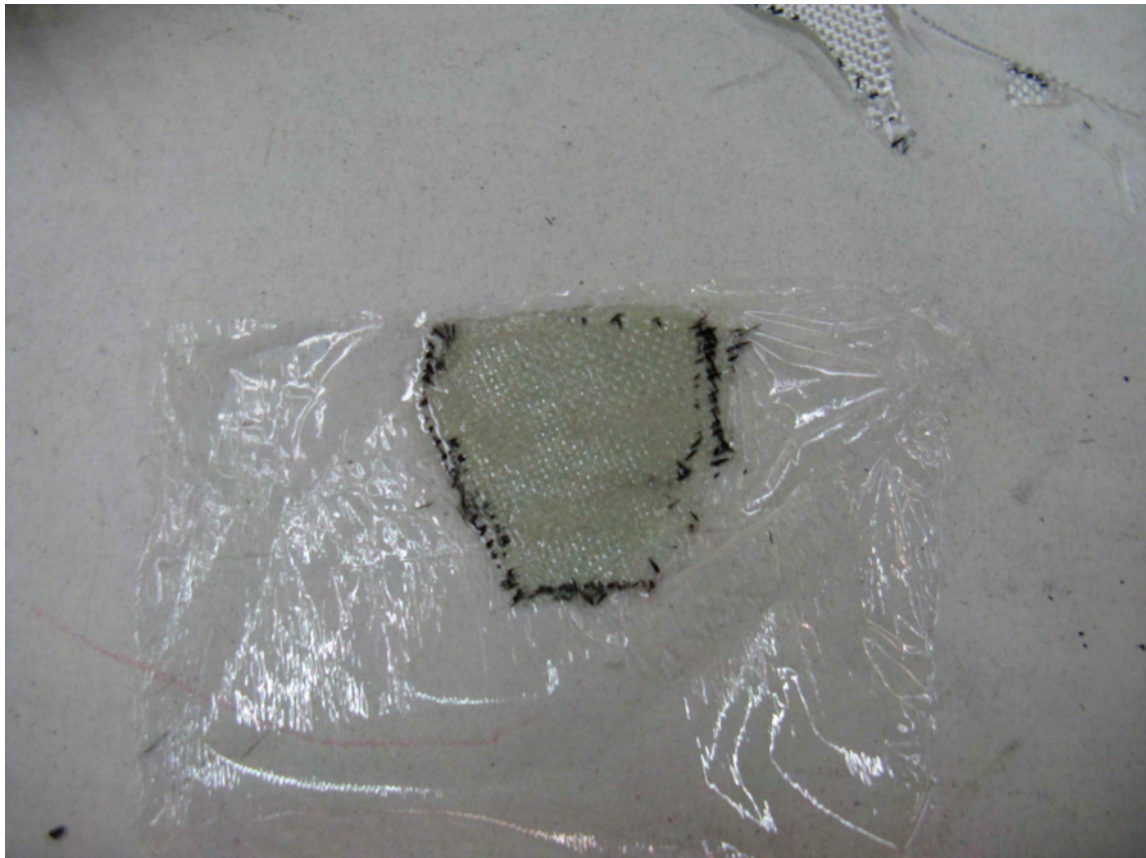

Figure 7: Fiberglass Cloth Lay-Up
Step 9: Cut out two pieces of fiberglass cloth in a trapezoid shape, 2 inch base, 2 inches tall, 1.25" wide at the top. See Figure 7. Cut the fiberglass cloth such that the fibers are oriented approximately as shown in Figure 7.
Mix a small batch of epoxy resin, wet out and layer the fiberglass pieces on top of a 4" square of plastic food wrap (or similar) as shown in Figure 7.